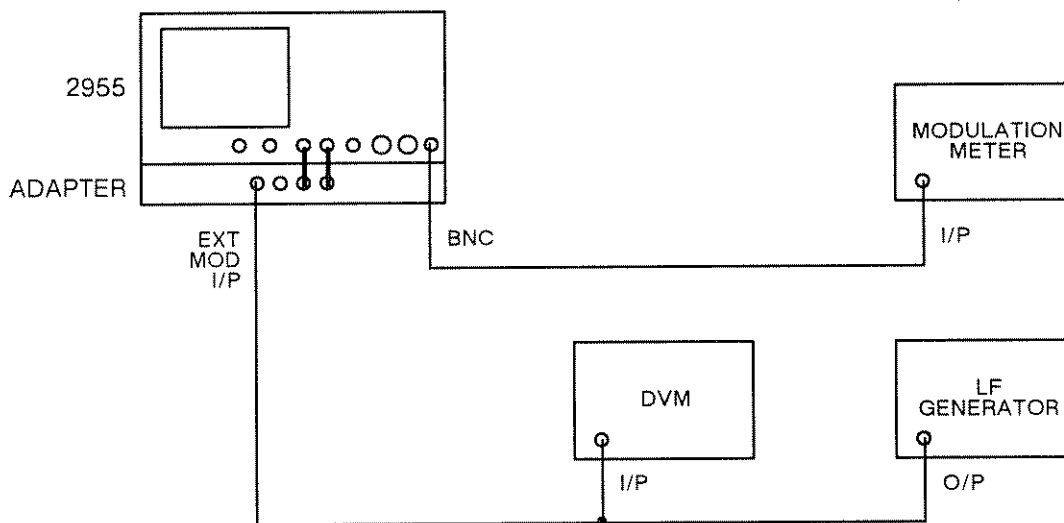

Fig. 5-11 Test equipment connections for external modulation test
- (1) Connect the LF generator to the Adapter's EXT MOD INPUT socket and the DVM and connect the 2955 BNC RF IN/OUT socket to the modulation meter input socket as shown in Fig. 5-11.